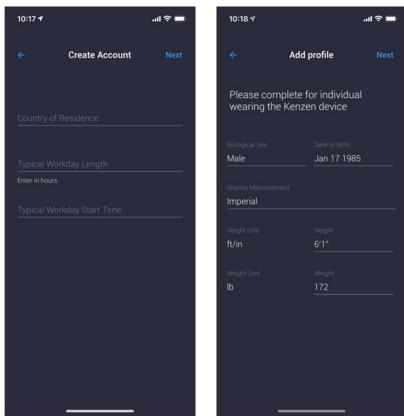

Figure 13: Profile Information
4. Enter your profile information, including Country of Residence, Typical Workday Length, Typical Workday Start Time, Gender, Date of Birth, Measurement units, Height, and Weight (Figure 13).